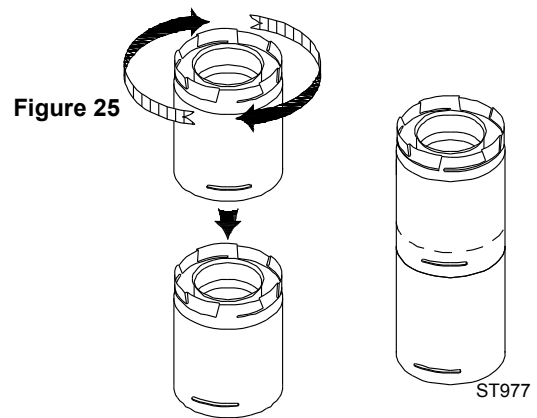

Figure 25
1. Twist-lock procedure: Line up locking lugs on male and female ends of pipe sections. Insert the male end of pipe into the female end until the locking lugs are covered. Twist the female end clockwise an eighth of a turn to lock sections together. (Fig. 25) Screws are not required to secure the joint, but are acceptable provided they do not penetrate the inner wall of the vent pipe.